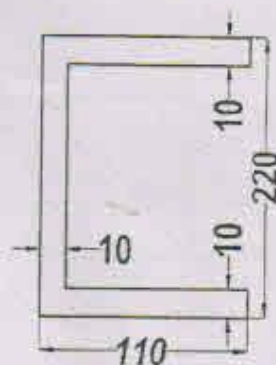

Figure 4
4. (a) What is shear center and shear flow. (2)
- (b) Determine the product of inertia of the angle section $75 \times 75 \times 10$ mm about the centroidal axis of the section. (6)
- (c) Locate the shear Centre of the channel section shown in Figure 4. (7)